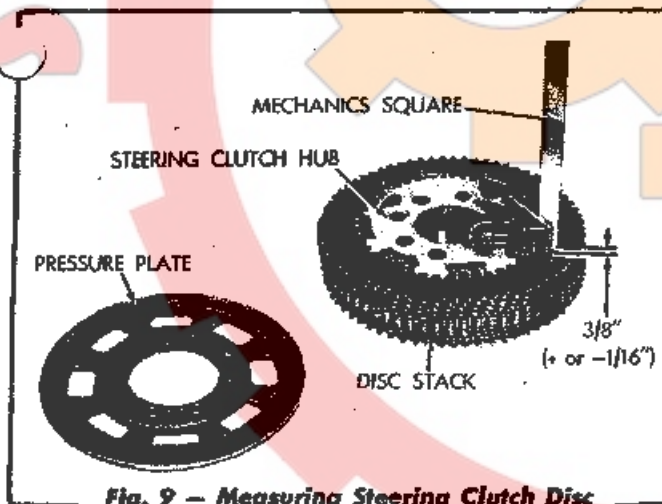

Fig. 9 - Measuring Steering Clutch Disc Stack Height
5. Stack the discs (10 friction and 10 steel) alternately on the hub beginning with a friction disc. Align the external teeth as evenly as possible. Check the stack height of the discs as shown in Fig. 9; the top disc should be 3/8" (+ or - 1/16") below the top of the steering clutch hub.